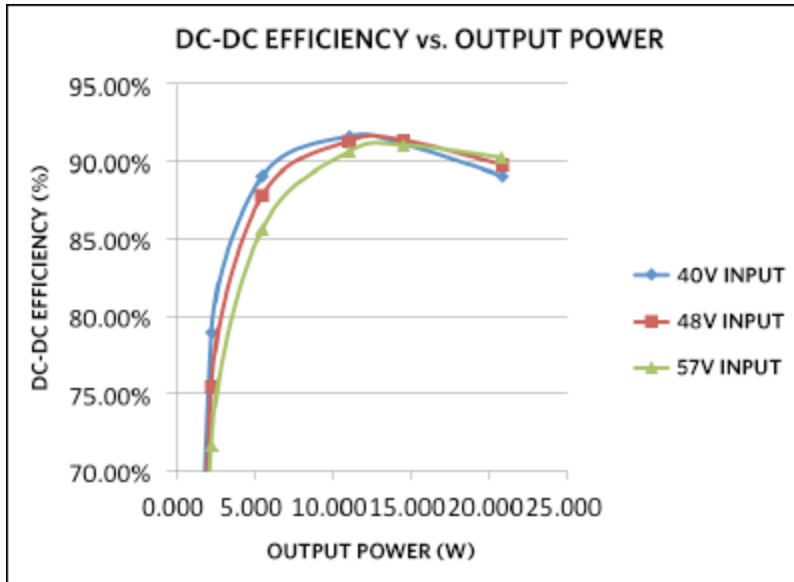

Figure 2. DC-DC efficiency of the Pasadena design, following the diode bridges.
**Figure 2** shows the efficiency of the DC-DC circuit, after the diode bridges, with varying output power, for three different input voltages of 40V, 48V, and 57V. **Table 2** shows the efficiency of each rail at full current, while the other rail is at 0A. **Table 3** shows line regulation, each data point is the difference of the output voltages while the input voltage is swept from 40V to 57V. **Table 4** shows the load regulation, each data point is the difference in output voltage from 0A to max current. Points are shown for the other rail at both 0A and max current. **Table 5** shows cross regulation, each data point is the difference in output voltage represented by the equation below.